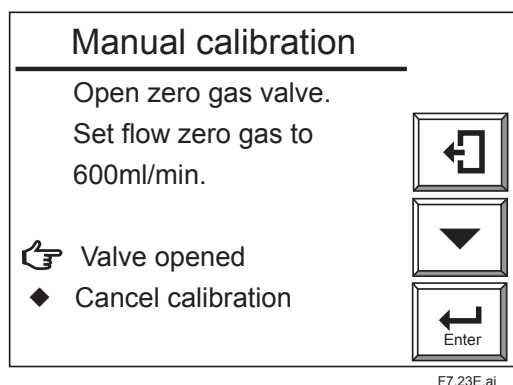
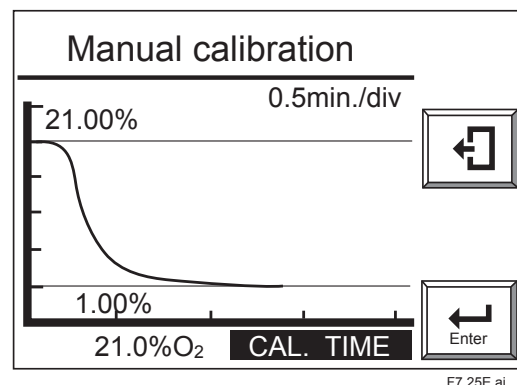

Figure 7.34 Zero Gas Flow Display
Figure 7.35 Zero Gas, Trend Graph
- (7) Follow the instructions in the display as in Figure 7.34 to turn on the zero gas flow. To do this, open the zero gas flow valve for the Flow Setting Unit and adjust that valve to obtain a flow of 600 ± 60 ml/min. The valve should be adjusted by loosening its lock nut and slowly turning the valve shaft counterclockwise. Use the calibration gas flowmeter to check the flow.
- (8) If "Valve opened" is selected as in Figure 7.34, an oxygen concentration trend graph (with the oxygen concentration being measured) appears (see Figure 7.35). The CAL.TIME in the bottom area of the panel flashes. Observe the trend graph and wait until the measured value stabilizes in the vicinity of the zero gas concentration on the graph. At this point, no calibration has been executed yet, so even if the measured value is above or below the zero gas concentration value, no problem occurs.